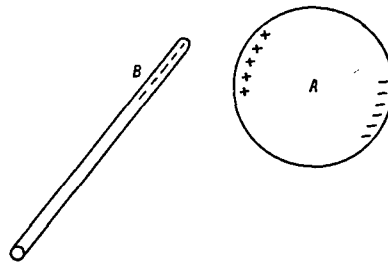

Fig. 22.6. Effect of a charged body on an uncharged body.
**129. Electrostatic Induction.** If a charged body is brought near an uncharged conductor, the uncharged body will be charged by induction. Figure 22.6 shows that if the negatively charged rod  $B$  is brought near the uncharged metal ball  $A$ , there is a positive charge induced on  $A$  on the side next to  $B$ , and a negative charge is induced on the opposite side of  $A$ . This condition results because the positive charges of  $A$  are attracted by the negative charges on  $B$  while the negative charges of  $A$  are repelled. If  $B$  is now moved away from  $A$ , the charged condition of  $A$  disappears because the charges go back to their normal positions. But if, while  $B$  is near to  $A$ , the latter is touched with a grounded conductor the negative charge will be conducted away.